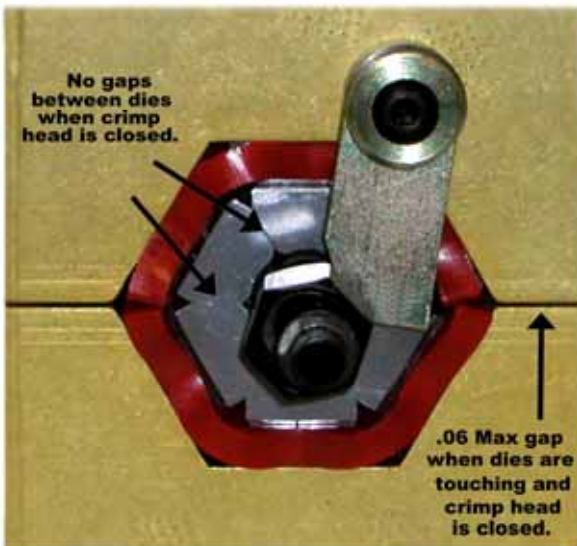

Figure 5
7. Place the assembly into the crimper and hold it against the flag locator. **Only the ferrule should touch the flag (Refer to Fig. 6, Pg 6).** Operate the actuator screw (Item 1, Pg. 7) to close the dies to the full closed position. This will provide the proper compression to achieve a leak free crimp. When the crimp dies are bottomed out, there will be a slight gap between the two die holders (Items 5 & 14, Pg. 7). This insures that the dies are fully closed before the holders bottom out (Refer to Fig. 5, Pg. 6).